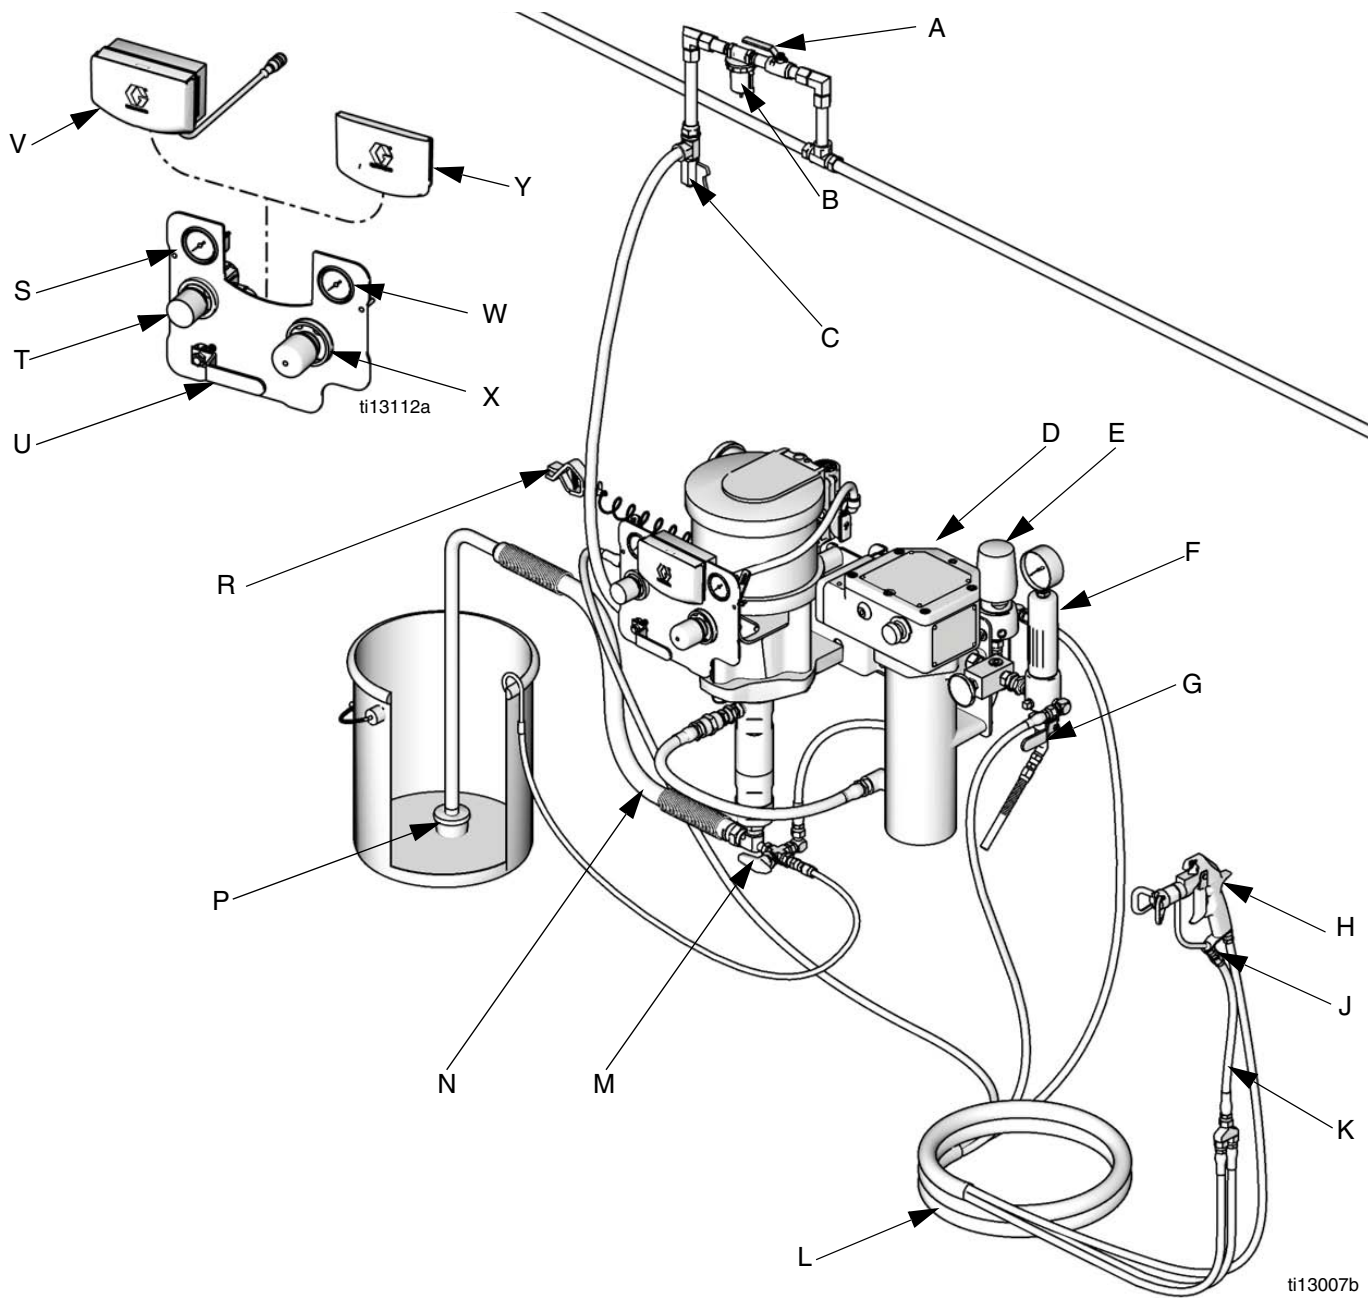

FIG. 1: Typical Installation (Your package may not include all items shown.)
FIG. 1 is only a guide for selecting and installing system components and accessories. Contact your Graco distributor for assistance in designing a system to suit your particular needs.
See FIG. 1. **Components vary by package ordered.**
See FIG. 1, page 8.
2. See FIG. 1. Turn off the bleed-type master air valve (U).